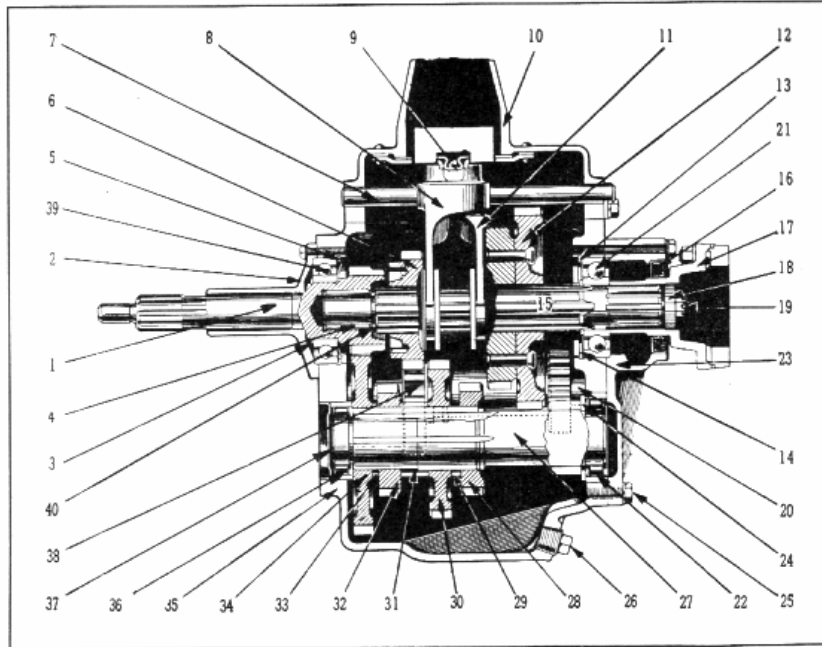

Fig. 1—Sectional View of Transmission
The main drive gear (1, Fig. 1) or clutch gear, is supported by a heavy duty ball bearing, front transmission bearing. The forward end of the shaft is supported by a straight Hyatt roller bearing in a recess in the crankshaft and the rear end of the shaft is recessed for a Hyatt roller bearing which supports the front end of the transmission main shaft.
DISASSEMBLY: (Refer to Fig. 1)
Rear Bearing Oil Seal—(Refer to Fig. 1).
REASSEMBLY (Refer to Fig. 1).
1. The second speed gear (28) Fig. 1, with the chamfered side of the gear towards the low speed gear, or rear end of the countershaft.
2. The second and third gear spacer (29), Fig. 1, $\frac{1}{4}$ " wide.
3. The third speed gear (30) Fig. 1, the chamfered side of the gear faces the reverse gear, or towards the front of the countershaft.
4. The third and reverse gear spacer (31) Fig. 1, $\frac{7}{8}$ " wide.
5. The reverse gear (32) Fig. 1, with the chamfered side of the gear towards the third speed gear, or towards the rear of the countershaft.
6. Reverse gear to counter drive gear spacer (33), Fig. 1, is $\frac{5}{32}$ " wide.
gear and the rear end of the countershaft (27, Fig. 1), and the thrust washer (24, Fig. 1).